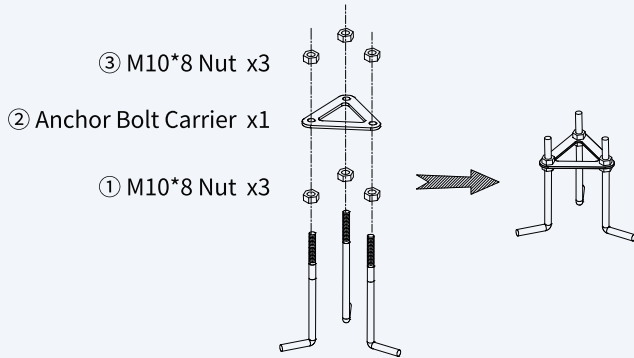

Fig 1
2. Get the anchor bolt carrier assembled as **Fig. 1** and use it to determine placement of anchor bolts in concrete.